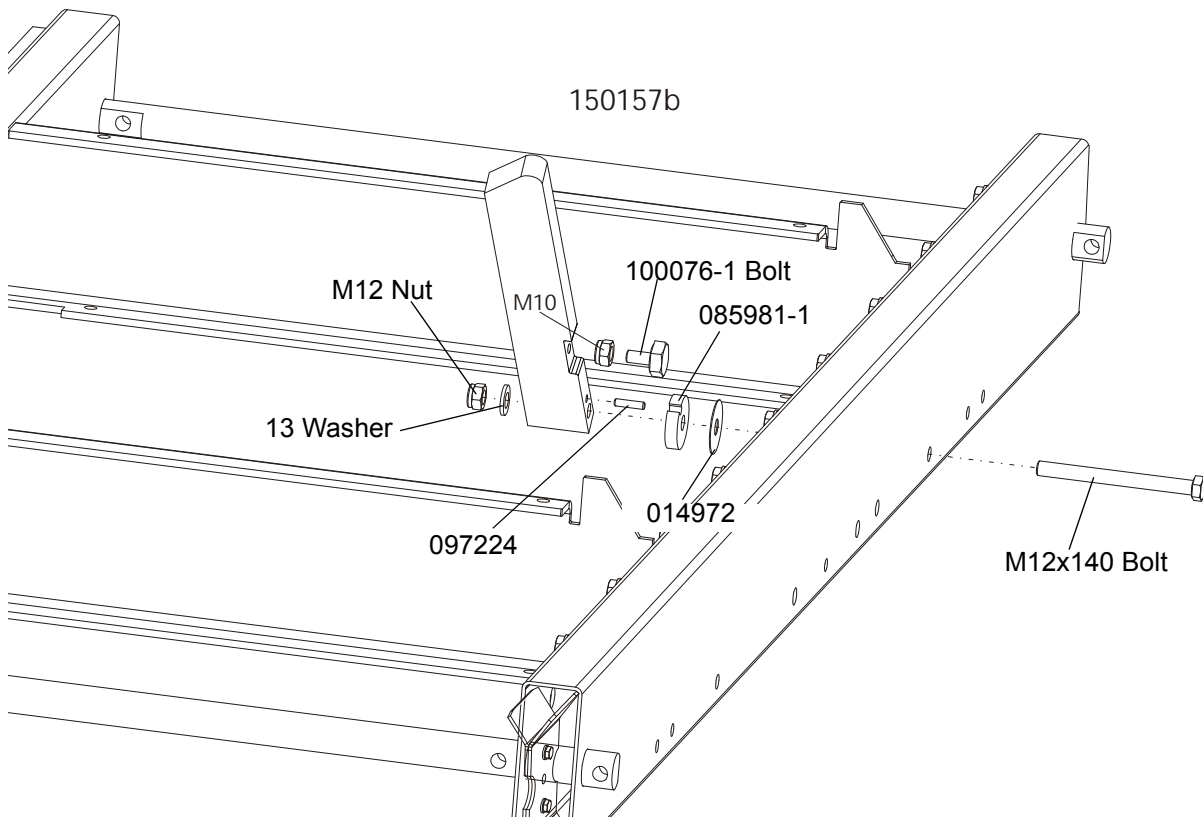

FIG. 2-7
8. Install the log side supports as shown in Figure 2-7. Tighten the nuts so that the side supports can be moved with little resistance. Patrz Rozdzia³ 6.11.
See Figure 2-7.